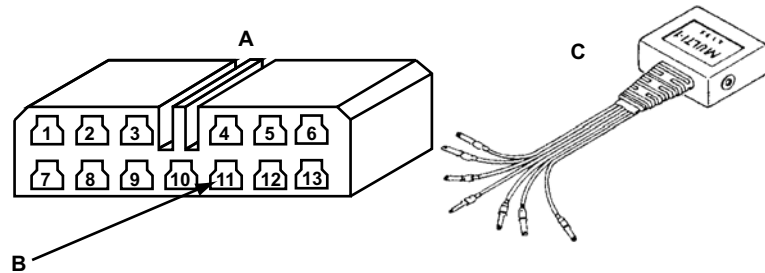

Figure 15-26 13-pin Check connector
- a. If your Check connector is 13-pin, connect the blue wire of the MULTI-1 adapter to pin 11 of the Check connector (Figure 15-26).